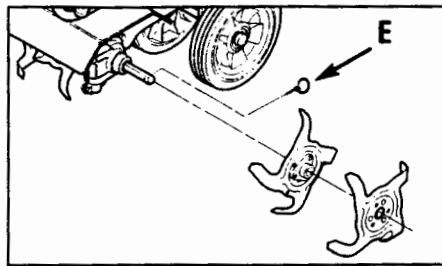

Figure 9: Ring lock pin and tines.
3. Flip open and remove the two ring lock pins (E, Figures 9 and 10) on each tine shaft.